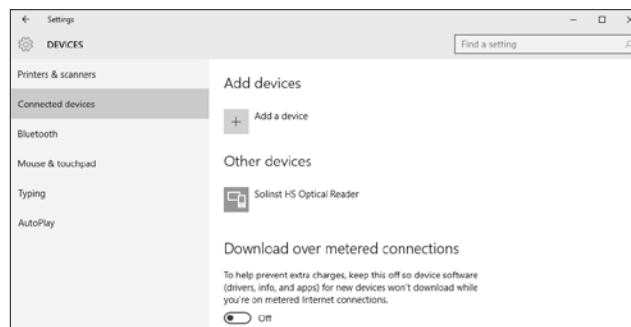

Figure 4-22 Installed Solinst USB Device
- Once the installation is complete, this will be shown in the Devices > Connected devices Window. See Figure 4-22.